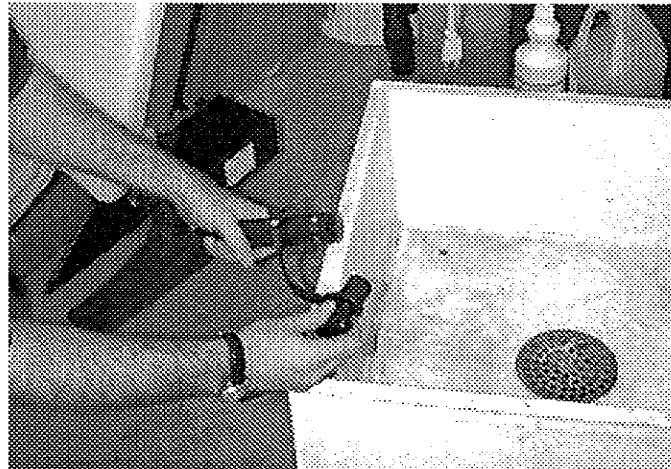

FIG. 10
4. Remove drain hose from holder and twist off drain hose plug. (Figure 10)